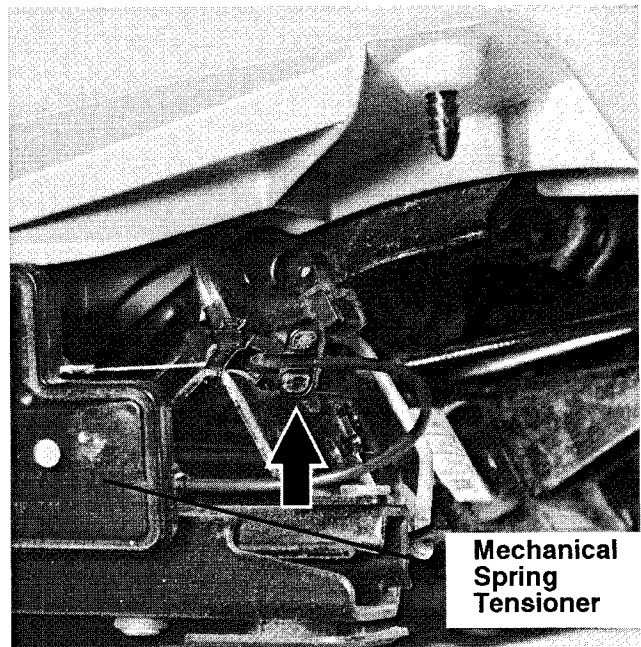

Fig. 3. Manually adjustable front seat. Turn and lift tab (arrow) to disengage cable from bracket.
- Cut wire tie next to tab on bowden cable. See Fig. 3.